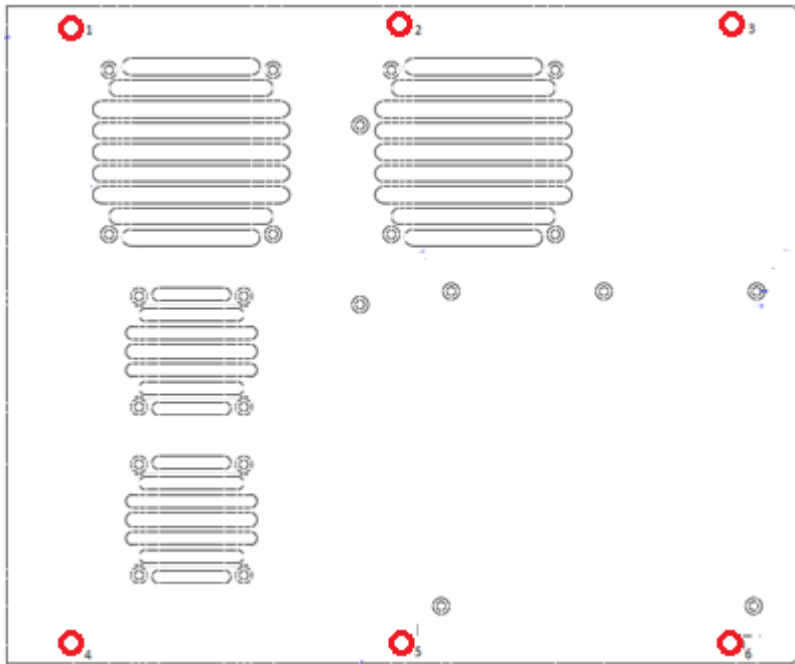

Fig. 29: Side cover removal instructions
- Remove screws 1, 2, 3, 4, 5, 6, see Fig. 29